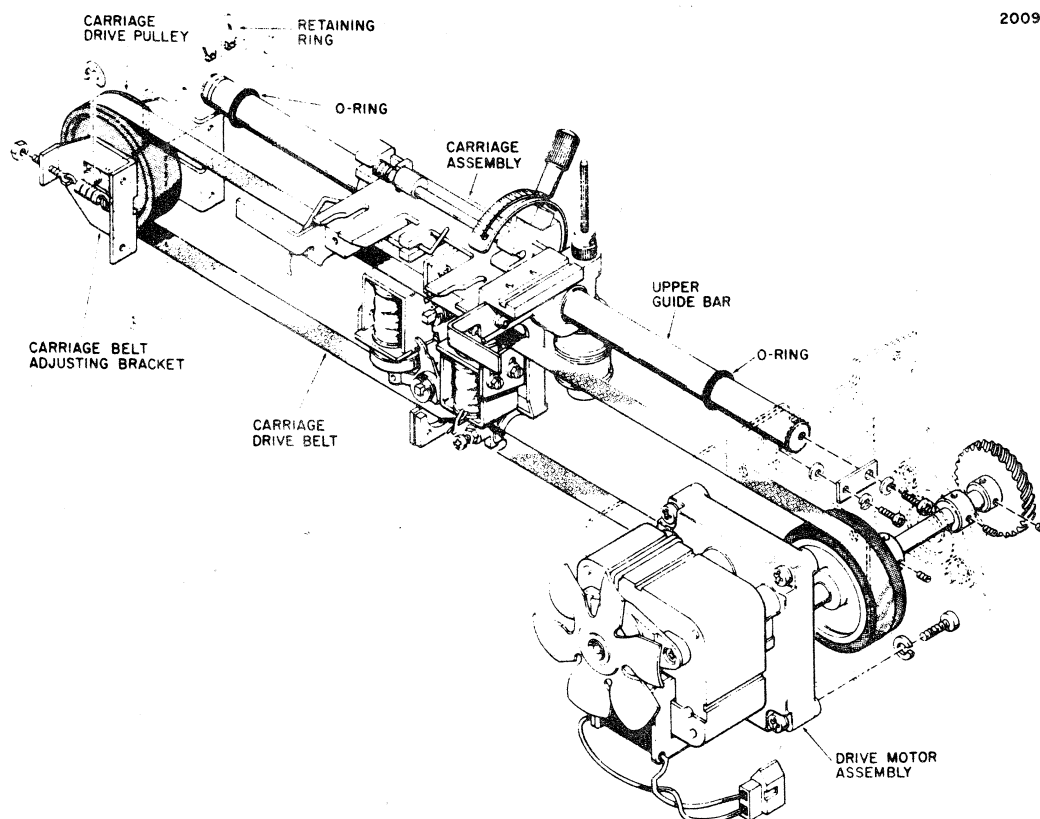

Figure 3-8. CARRIAGE ASSEMBLY, REMOVAL/REPLACEMENT
B. REMOVAL/REPLACEMENT PROCEDURE (Refer to Figure 3-8)